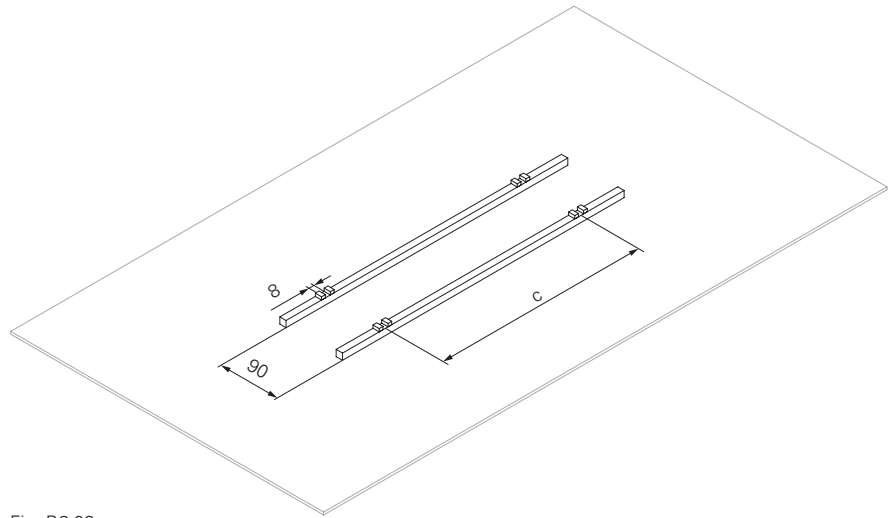

Fig. B6.03
- As assembly aids, prepare two squared timbers with a stop aid. The dimension c corresponds to the bracket spacing. Lay out the squared timbers at the specified distances on the assembly area and align them parallel to each other. (Fig. B6.03)